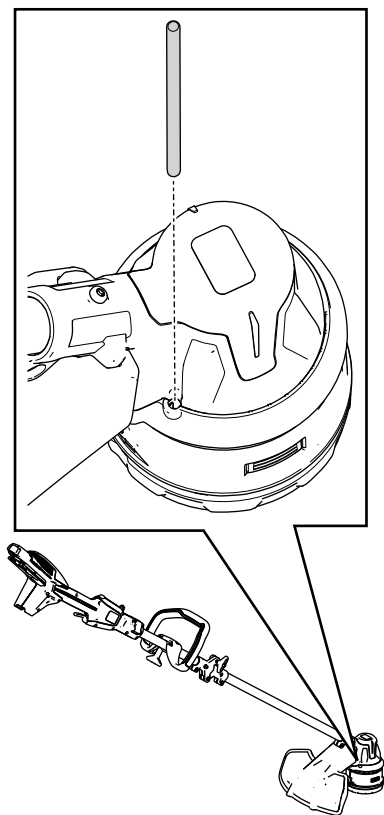

Figure 17
2. Insert a small-diameter tool (such as a screwdriver) through the motor housing and into the groove in the fan to secure the trimmer head so it does not freely rotate (Figure 17).